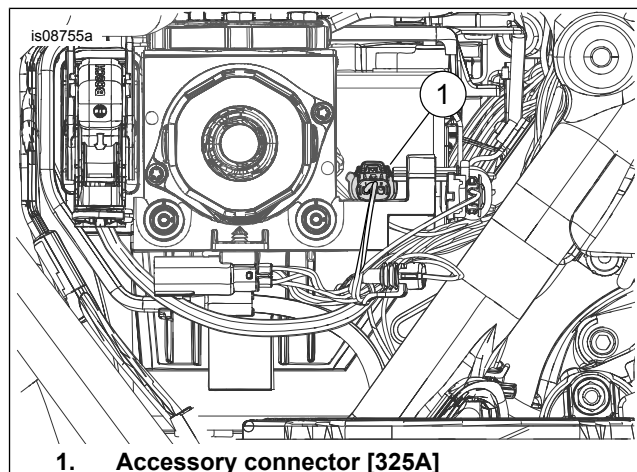

Figure 4. Accessory Connector
- a. See Figure 4. Install Electrical Connection Harness (Part No. 69201599) as per instructions in that part.